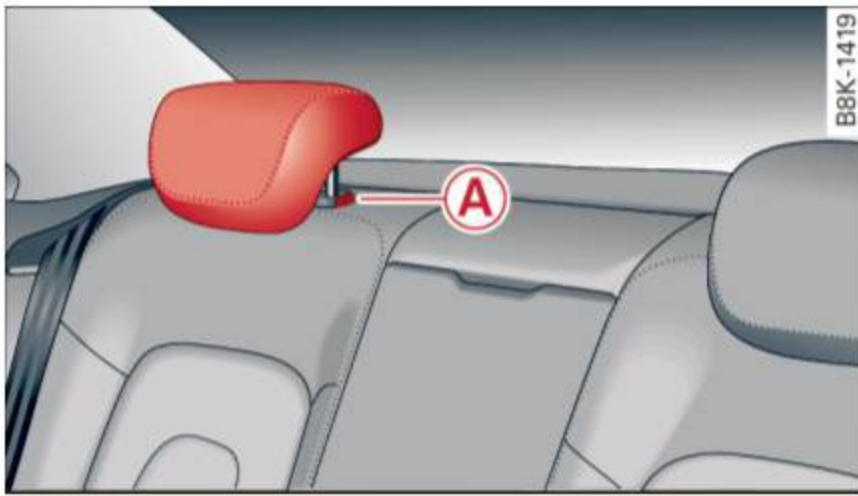
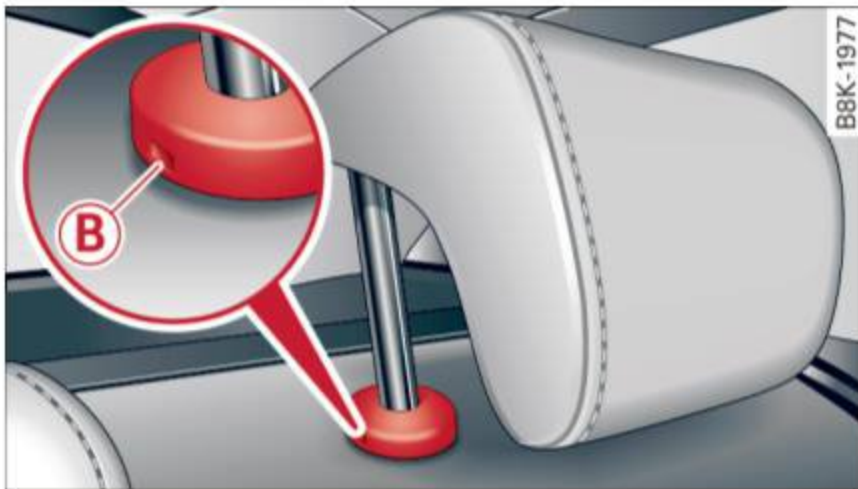

Fig. 57 Rear seats: head restraints
Fig. 58 Rear head restraints: release
- ▶ To move the head restraint down, press the button **A** ⇒ fig. 57 and slide the head restraint downward.
- ▶ Press the release **B** ⇒ fig. 58 with the mechanical key ⇒ page 31 and the button **A** ⇒ fig. 57. Pull the head restraint out of the backrest at the same time ⇒ ⚠.
- ▶ Press the button **A** ⇒ fig. 57 and slide the head restraint all the way down. You should not be able to pull the head restraint out of the backrest.